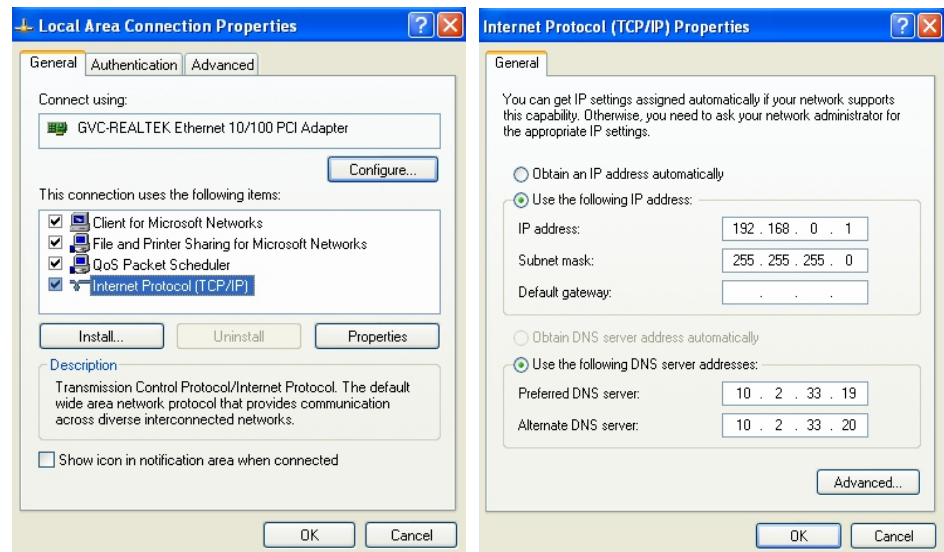

Figure 4. Internet Protocol Properties
2. Temporarily change the computer's Internet protocol properties to gain access to the intranet that is used with Technology Option. This example will use IP address 192.168.0.1. Refer to Figure 4.